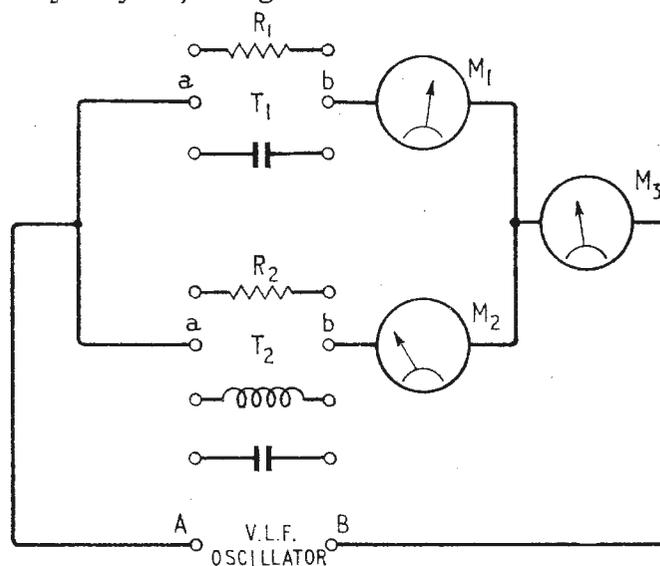

Fig. 1. Three centre-zero meters arranged to demonstrate a.c. phase relationships.
1. The demonstration begins with resistors  $R_1$  and  $R_2$  connected to terminals  $T_1$  and  $T_2$  respectively, as in Fig. 1. The centre-zero meters,  $M_1$ ,  $M_2$  and  $M_3$ , require 25  $\mu$ A to give full scale deflection on either side. Suitable values for  $R_1$  and  $R_2$  are in the range 100k $\Omega$  to 200k $\Omega$ . Students see that the pointers on  $M_1$  and  $M_2$  swing in step with one another; when one pointer reaches its maximum deflection to the right, so does the other. The pointer on  $M_3$  is also in step, and its peak swing is equal to the sum of the peak swings on  $M_1$  and  $M_2$ . It is helpful at this stage to remind students of the necessity for a suitable convention; we could agree, for instance that the current in each branch is to be considered positive when flowing from A to B; the meters are connected according to a consistent pattern, so that when current is flowing from A to B the pointer is deflected to the right.
▲ Fig. 1. Circuit diagram of noise generator and indicator.